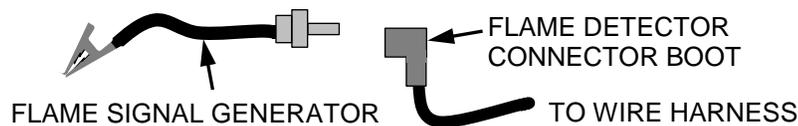

Figure 5-8: Connecting the Flame Signal Generator
- b) Push the **BACK** button three (3) times to return to the upper level menu.
- c) When the C-More Controller gets into the ignition phase, it will show **IGNITION TRIAL**. At that point attach the alligator clip (see Figure 5-8) to any bare metal surface or ground. The C-More Controller display should now show **FLAME PROVEN** and begin to ramp up to 100% fire rate. Note that no gas or flame is present in the boiler at this time.